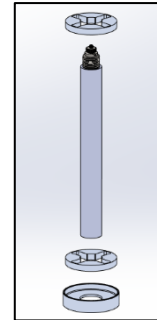

FIG. 5 ACOUSTIC HOLDER
3. ACOUSTIC HOLDER ASSEMBLY. (shown in FIG. 5)